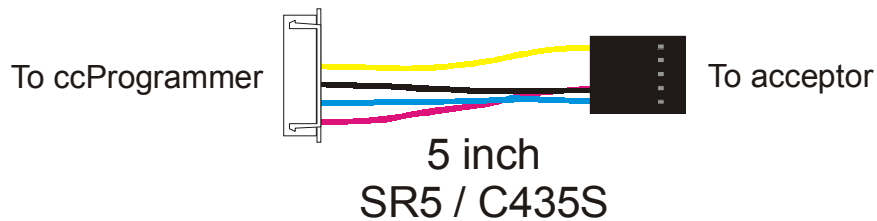

Figure 2: ccProgrammer 5 inch acceptor cable
- 1 x SR5 / C435S cable. (see Figure 2).